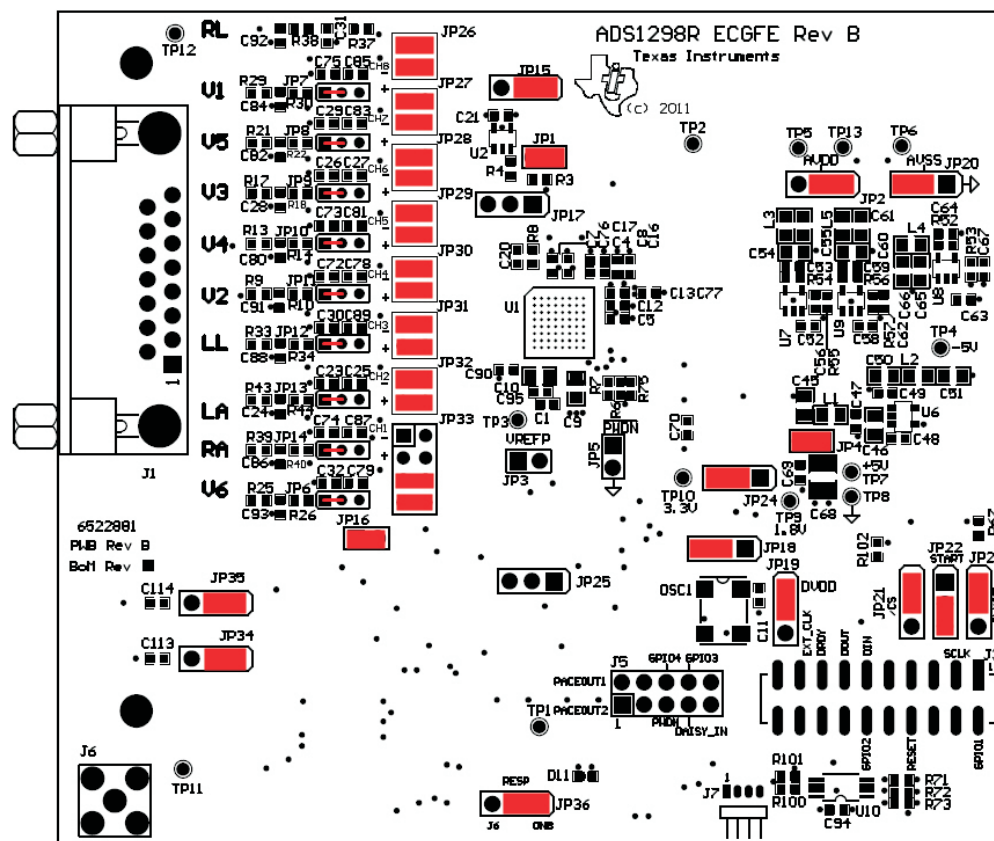

Figure 2. ADS1298RECG-FE Default Jumper Locations
Figure 2 shows the jumpers found on the ADS1298RECG-FE EVM and the respective factory default conditions for each.
1. Verify the jumpers on the ADS1298RECG-FE are as shown in Figure 2 (note that these settings are the factory-configured settings for the board).